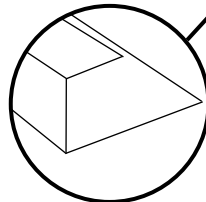

fig.1
- Position door side flashings and door top and bottom flashings and assemble door as shown, ensuring narrow face of flashing is on the front as per fig.1